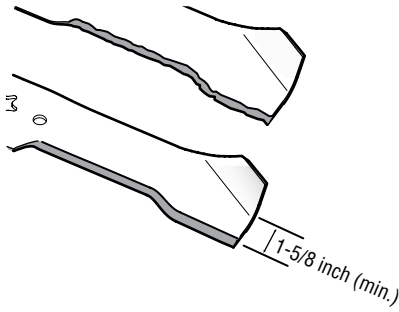

Figure 4-17
**IMPORTANT:** If the cutting edge of the blade has already been sharpened to within 1-3/8" from the edge, or if any metal separation is present, replace the blades with new ones. See Figure 4-17.